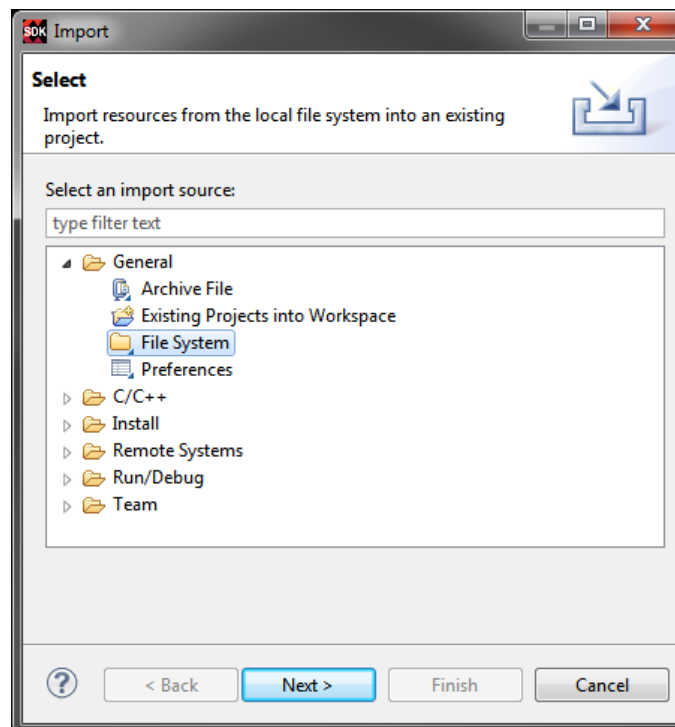

Figure 1.26: Import File System
- (e) The *Import* window will open. Expand the **General** option and highlight **File System**, as in Figure 1.26, and click **Next**.